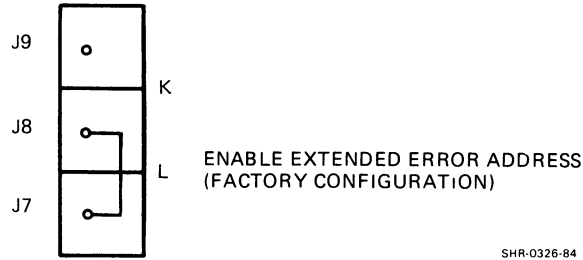

Figure 2-6 Enable/Disable Extended Error Address
2.2.5 Enable/Disable Extended Error Address Jumper (Figure 2-6)